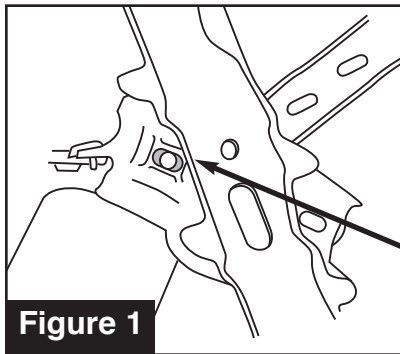

Figure 1
3. Pry control arm mount up away from subframe so that a rotary file such as #85130 can be used to elongate outboard hole in subframe per factory etching (see Figures 1 and 2).